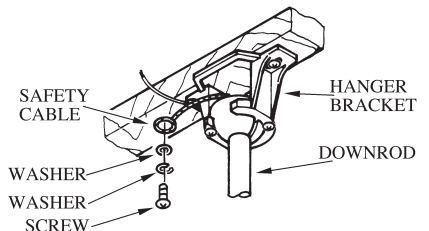

FIG.4
3. Install the safety cable into the building structure (see Fig.4)